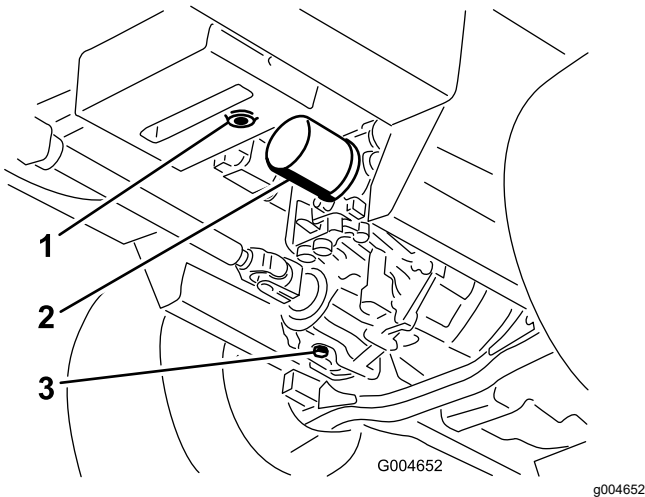

Figure 57
3. Place a large pan under the hydraulic reservoir and transmission case and remove the plugs, draining all of the hydraulic fluid (Figure 57).
4. Clean the area around the hydraulic fluid filter and remove the filter (Figure 57).